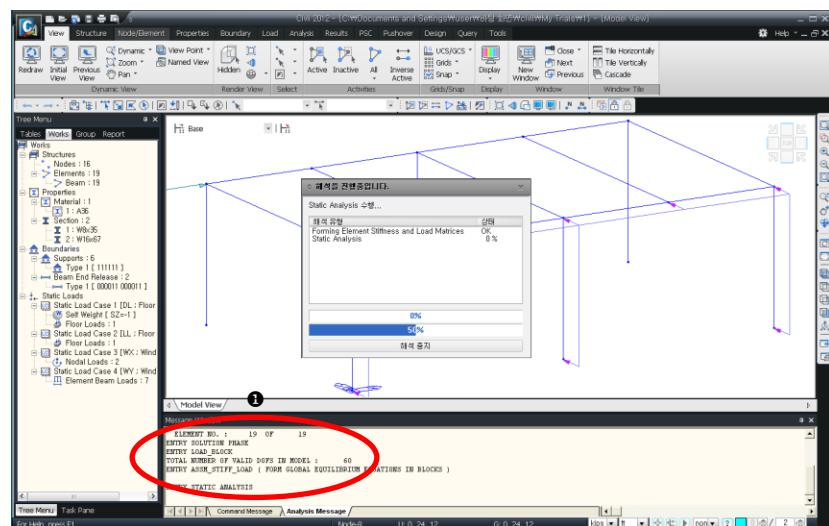

Figure 1.21 Execution Process of Structural Analysis
Once the structural analysis begins, the dialog box signaling the execution appears in the middle of the screen as shown in Fig.1.21. The overall analysis process, including the formation of the element stiffness matrix and the assembling process, is displayed step-by-step in the **Analysis Message Window** at the bottom of the screen (Fig.1.21–❶).